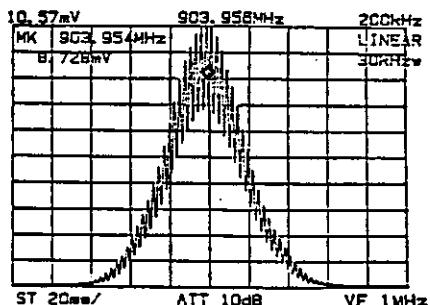

Figure 5-4 Setting the Ordinates Axis Scale to LINEAR
- ⑥ Press the **SHIFT** **□**, **LINEAR** **□** key and set the ordinates axis scale to LINEAR (Figure 5-4).